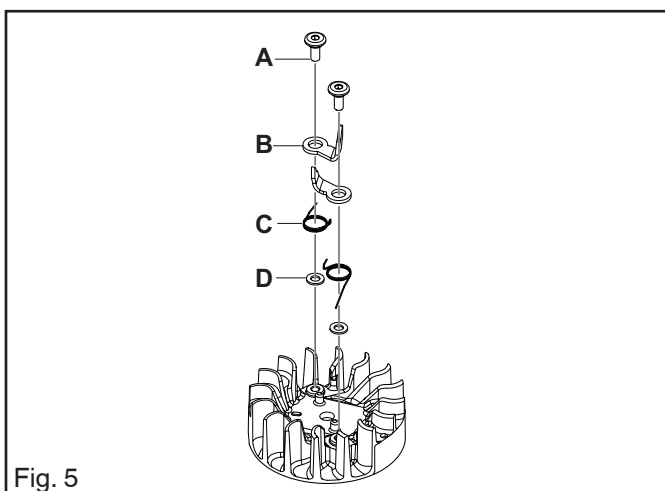

Fig. 5
1. Fit the washers (D), springs (C), pawls (B) and screws (A). See Figure 5.